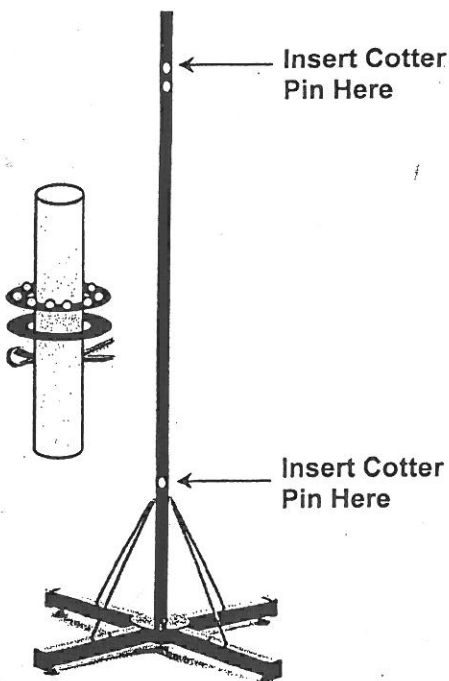

Figure 1
- 1) Insert Cotter Pin (part C) into bottom hole of Base Setup (part G), as indicated. (See Figure 1)